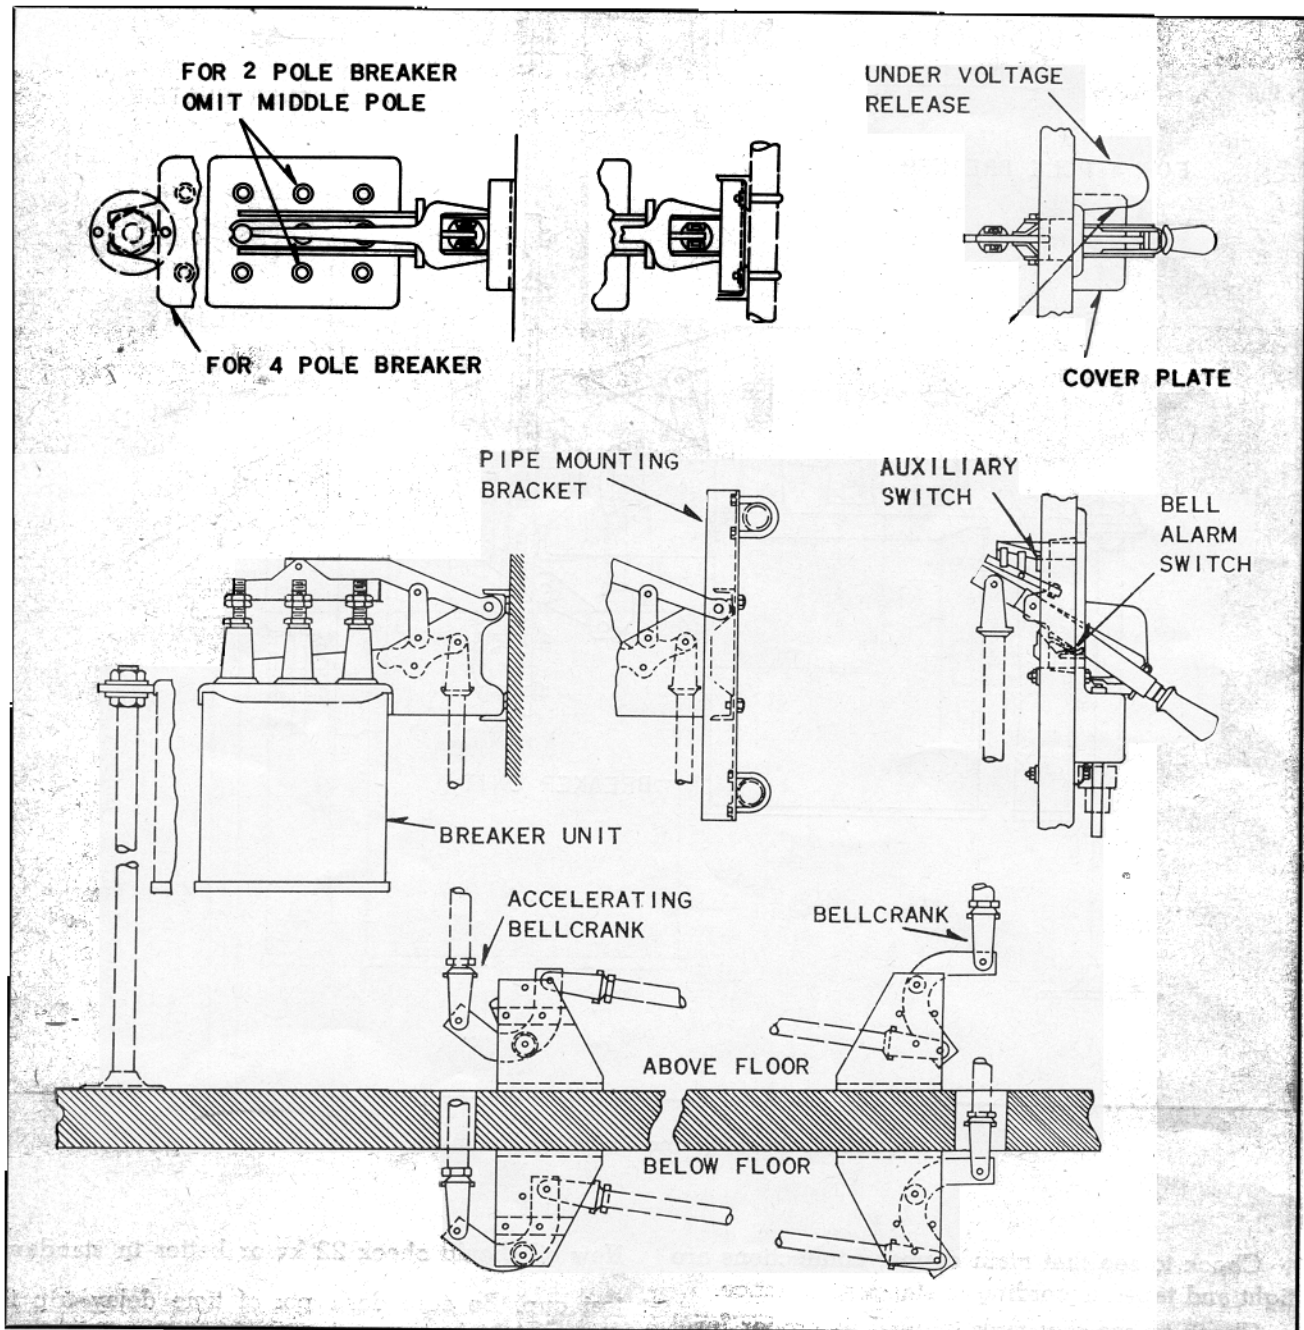

FIG. 8. Remote Control Assembly
8. If breaker unit is to be carried on a wall or pipe frame, assembly will be according to Fig. 8. The bell cranks are supplied for mounting on the floor with the accelerating device carrying the spring next to the breaker unit. If bell cranks are to